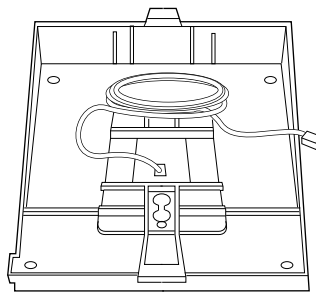

FIGURE 5-10. Wrapping Excess Line Cord
- b. Plug a short cord on a Terminating Resistor Adapter (TRA) into the wall jack. Plug the telephone line cord into the TRA and place TRA in the bottom of the base as shown in Figure 5-10.